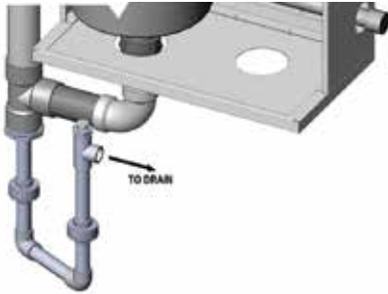
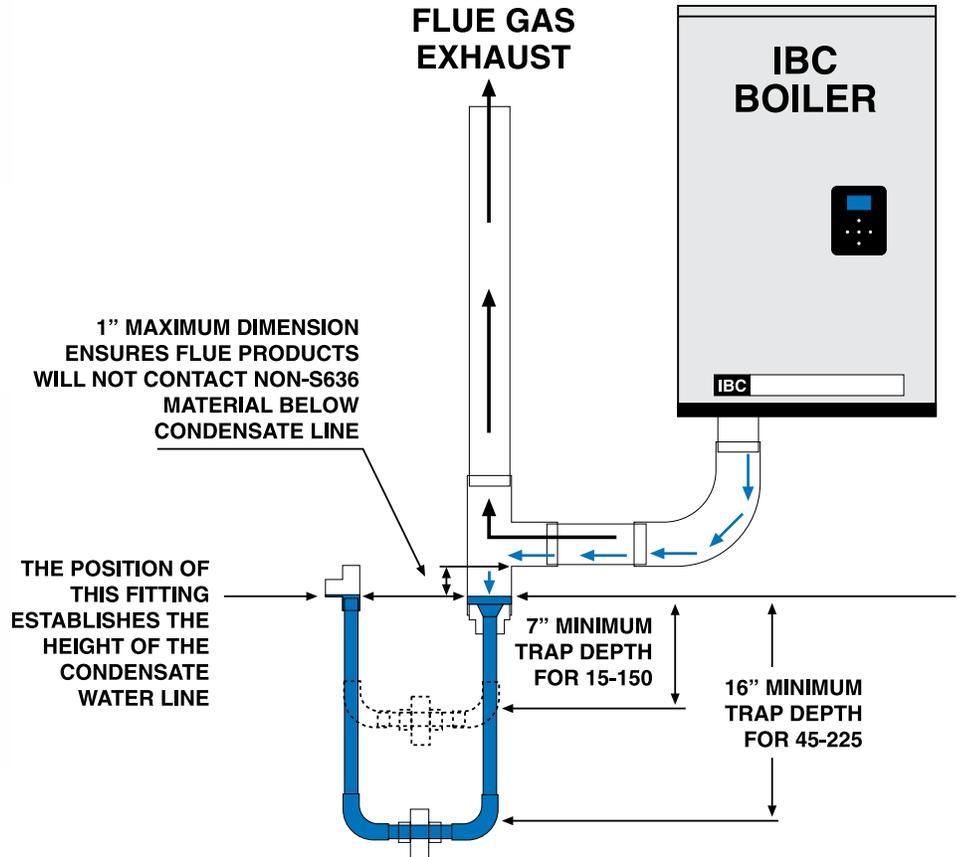

Figure 15: Condensate trap configuration (double union option shown)
Figure 14: Condensate trap configuration (single union option shown)
- Use the supplied PVC unions for easy access for cleaning. Locate on the vertical legs as per *Figures 15 and 16*. Earlier installations may have a single union at base of the trap (*as shown in Figure 14*).
A condensate trap must be installed near the base of the boiler as shown in *Figures 14 or 15*. The trap is formed using PVC pipe, elbows and threaded union fittings.
- For the 15-150 model, must be 7" min in height (see *Figure 14*); with the conventional vent kit parts supplied with the boiler, approximately 15" clearance below the boiler is required. For the 45-225 model, the trap shall have an effective minimum depth of 16" (up to 24" below may be required; this can be achieved using a conventional drop as shown below or a ball trap assembly of similar properties).